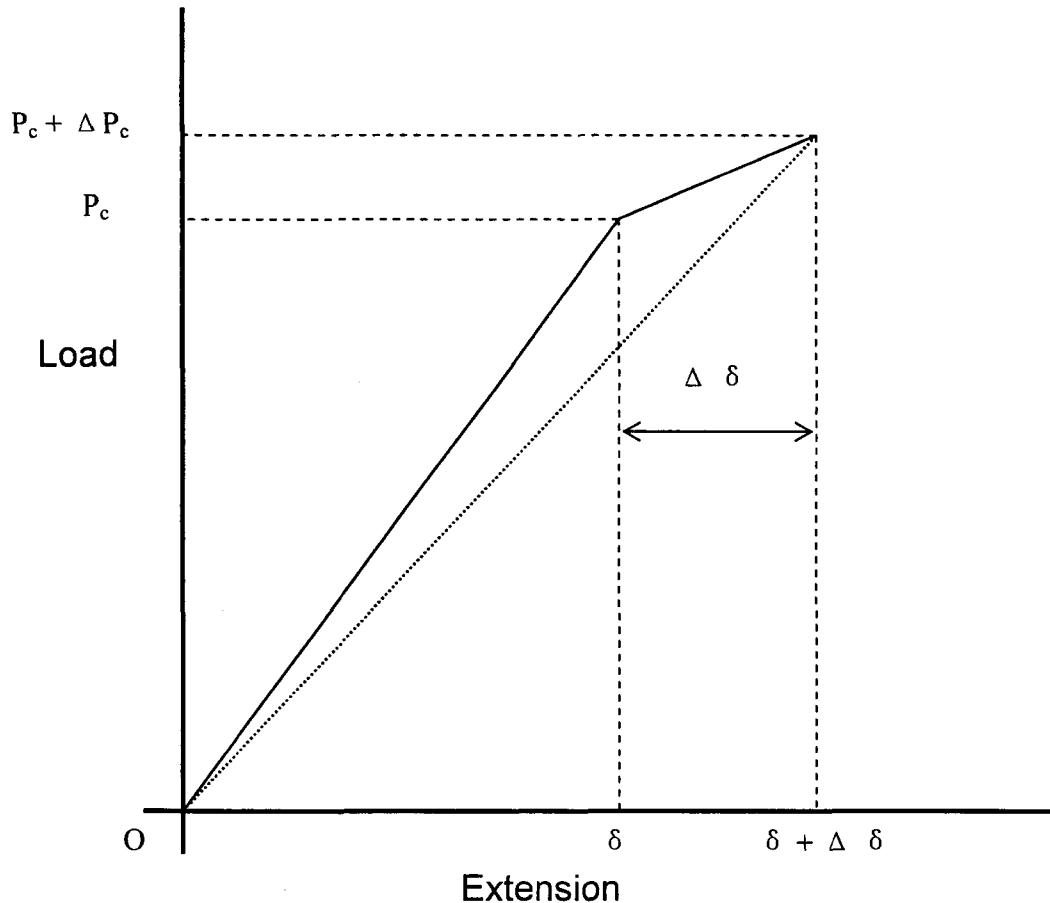

Figure 1
- (b) Based on Irwin-kies Relationship and Figure 1, indicate that strain energy release rate ( $G$ ) is